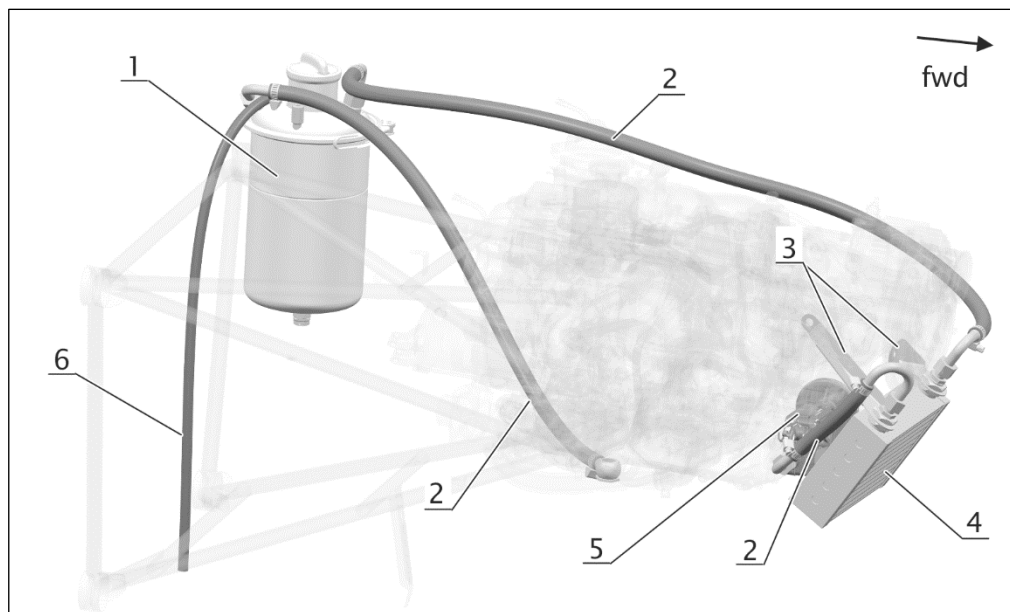

Fig. 1 Oil Cooling System
Engine lubrication system (see Fig. 1) is made with the dry sump. Engine lubrication system is equipped with the mechanically driven oil pump (3) which ensures oil supply from the oil tank (1) located on the firewall through the oil cooler (4) and the oil pump (5) with oil filter to the lubricated points on the engine. The oil pump is equipped with the pressure regulator and with the pressure transmitter. The oil tank is ventilated by the hose (6) which leads under the airplane. Oil pressure and temperature are indicated on the Garmin System.
See Fig. 1.